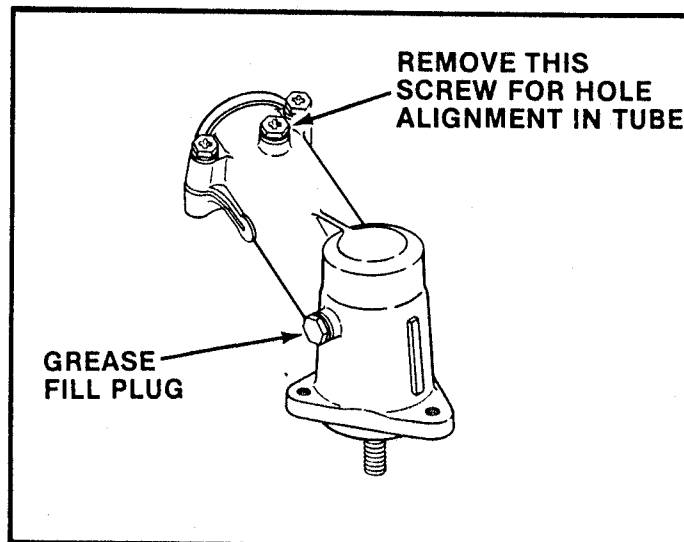

FIG. 5 - GEAR HOUSING
WARNING: It is normal for the gear housing (figure 5) to become very warm after extended periods of operation. While the temperature should not become high enough to cause burns, it could reach levels very uncomfortable to the touch.
4. Reverse ends of shaft and insert all the way into liner and tube. Turn shaft to align with square opening in clutch drum. If the end of the shaft protrudes more than 3/4" from the edge of the drive tube, the shaft is not fully engaged in drum. When properly installed, reinstall the drive head-shield & brace assembly on the drive tube housing and secure the fasteners on the head and brace to lock in position. (See note in Figure 5 below for aligning gear head on tubing.